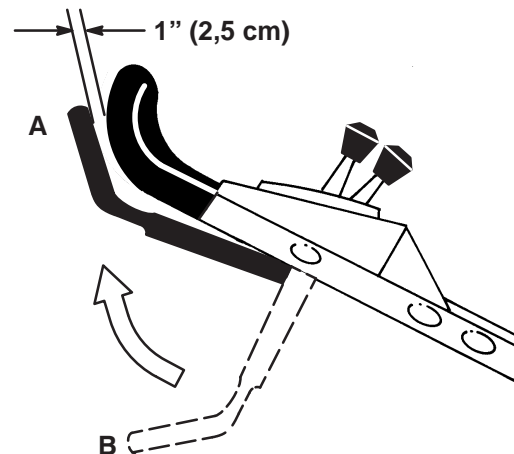

Figure 12
9. Lift control bar to the normal blade engaged position (about one inch below the handle) [Refer to position *A* in Fig. 12]. The fan-like noise indicates that the lawn mower blade is turning.